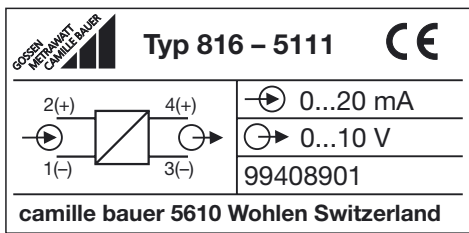

Fig. 5. Example of a nameplate.
- ... the data required to perform the electrical insulation task agree with the data on the nameplate of the SINEAX TI 816 (→ input signal and ← output signal, see Fig. 5)!